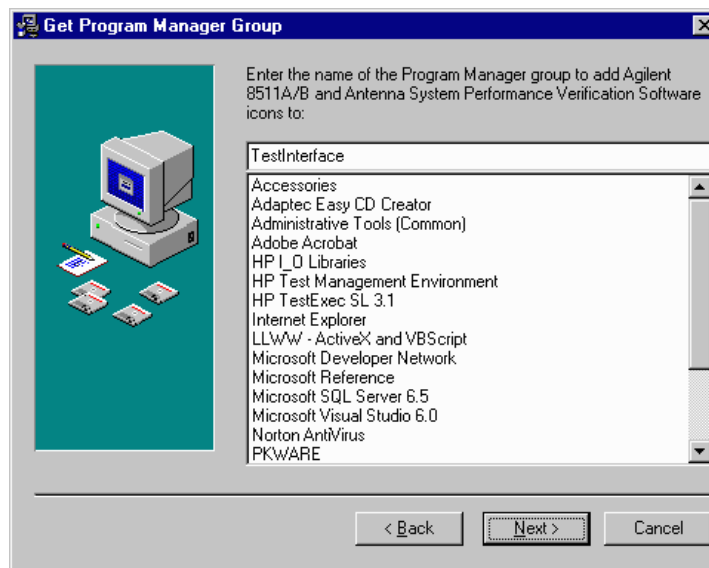

Figure 5 *Get Program Manager Group Window*
10. The **Get Program Manager Group** window is displayed. Click **Next>** to select the default program manager group (**TestInterface**). See Figure 5.